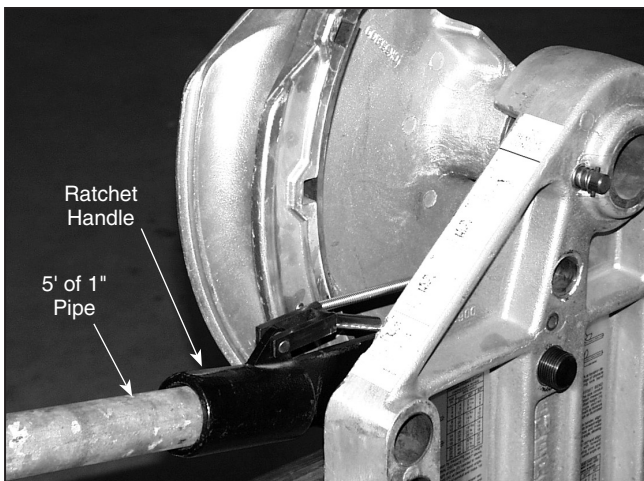
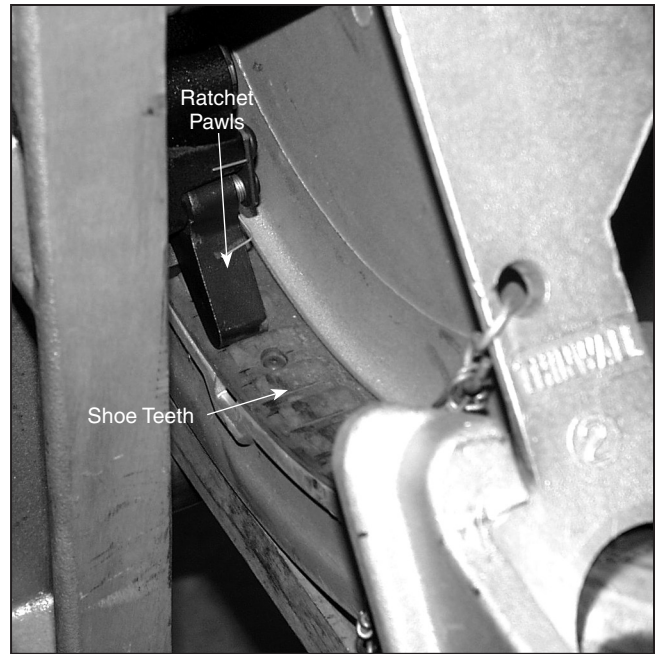

Fig. 10
Fig. 11
- Insert the 1" pipe into the ratchet handle, figure 10. Push the release lever forward to set the ratchet pawls. Raise the ratchet handle until the pawls engage the shoe teeth, figure 11.